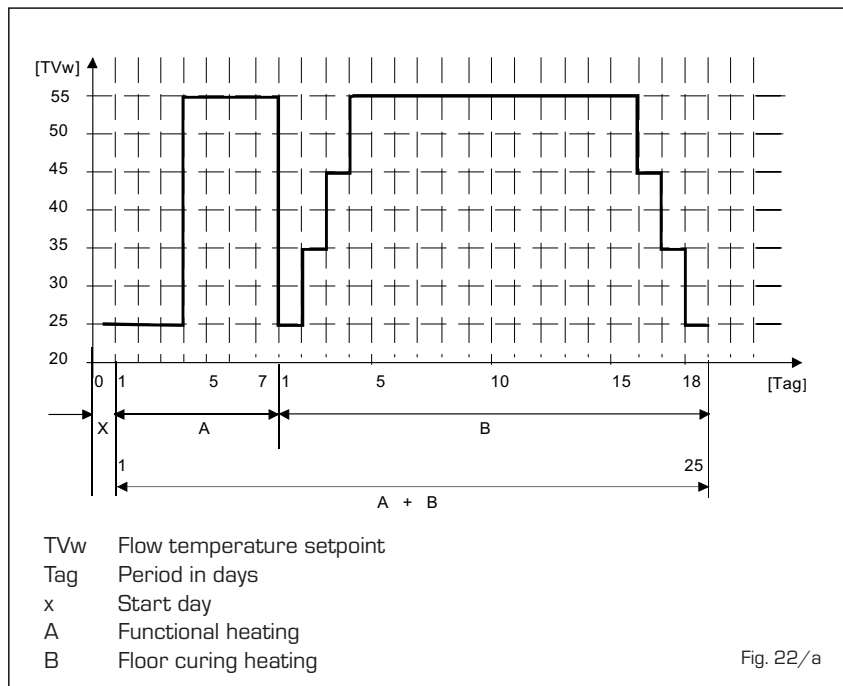

Fig. 22/a
4.5.4 WILO-YONOS PARA PWM pump diagnose and remedy (fig. 22/b)